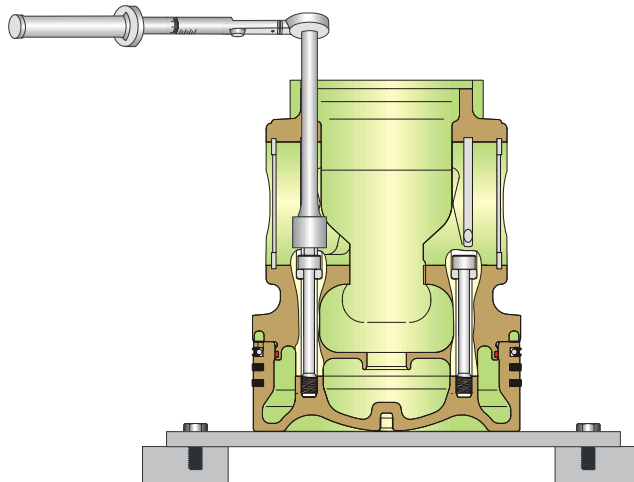

Fig.2 Cross section of piston complete (피스톤 단면도)
1. Loosen piston stud by using a torque spanner and dismount piston skirt as shown in fig. 2.